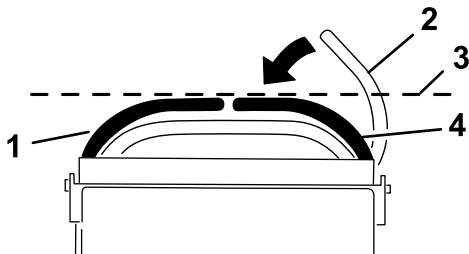

Figure 60
4. Check the horizontal alignment of the motion-control levers (Figure 60).